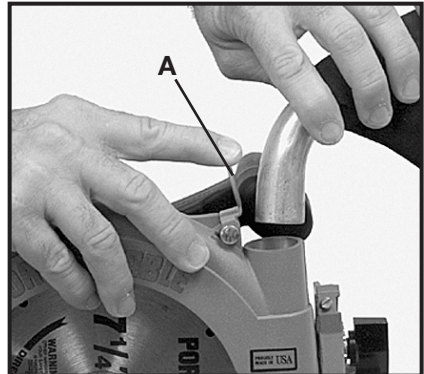

Fig. 12
2. Swing open exhaust cover (A) Fig. 12, and clean out any sawdust that may have accumulated.